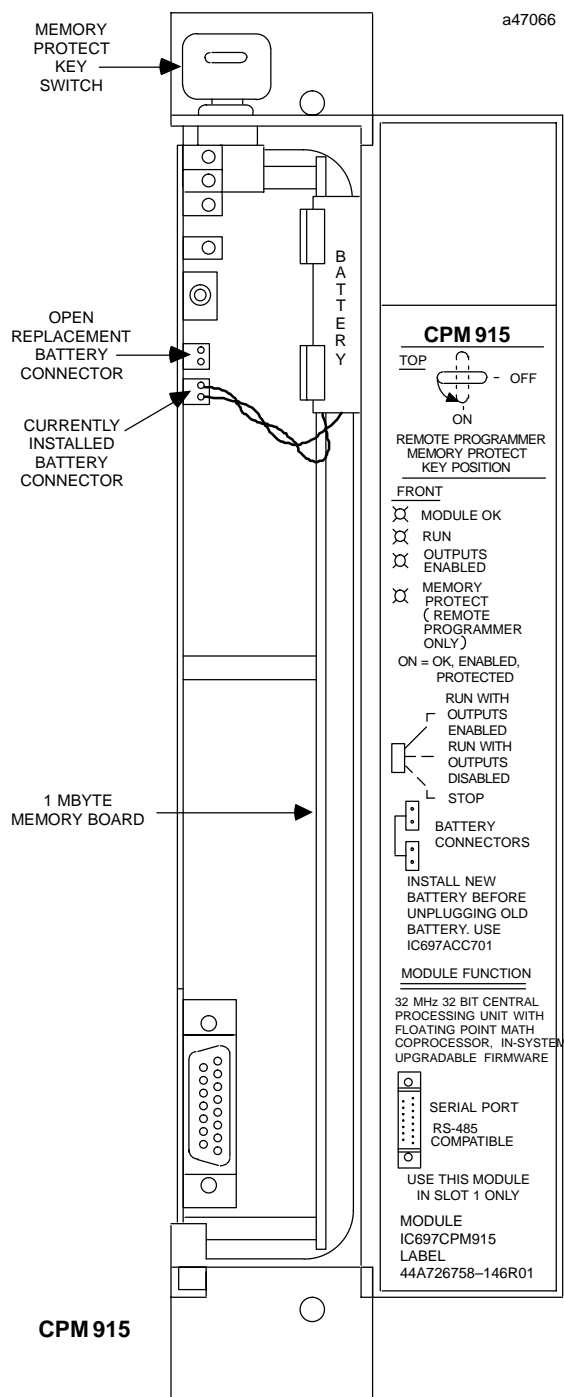

Figure 2. CPM 915 - Location of Major Features
- Connect the battery to either of the battery connectors on the module (see Figure 2).
A lithium battery (IC697ACC701) is installed as shown in Figure 2. This battery maintains program and data memory when power is removed and operates the calendar clock. Be sure to install the new battery before removing the old battery. Specific indication of a low battery state is detailed in Reference 2.